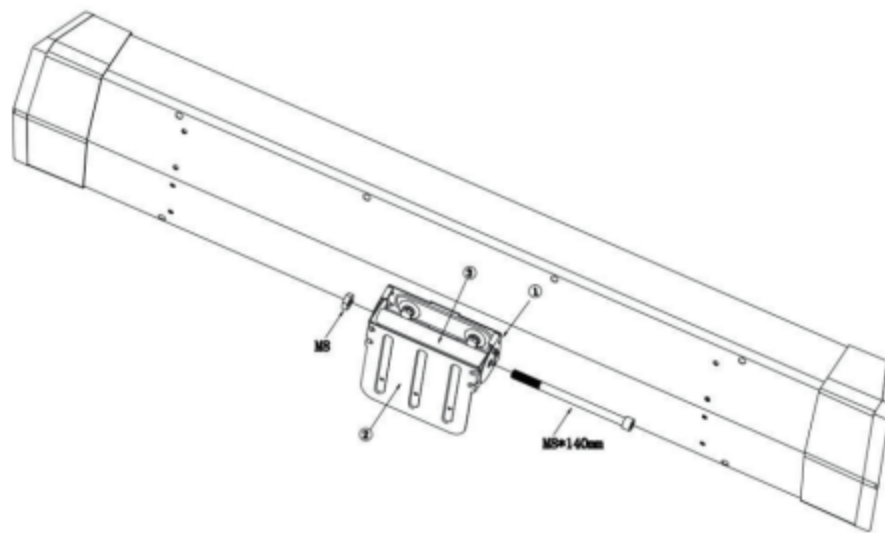

Figure 3
Second, install ② on ① as figure 3 , place ③ in the middle of ① and ② , insert M8*140mm screws into the holes of ③ , ② and ①, and secure the other end with M8 nuts.